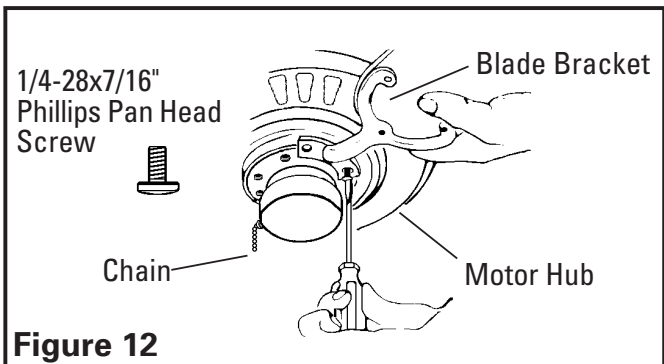

Figure 12
- Place one of the 1/4-28x7/16" Phillips pan head screws into one of the recessed holes in the blade bracket. Turn screw until it mates with the threaded hole in hub. Do not tighten screw completely at this time (**Figure 12**).